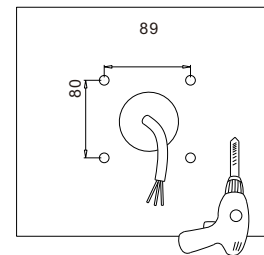

Figure 1
1. Cut holes on the wall according to locating plate. (Figure 1)